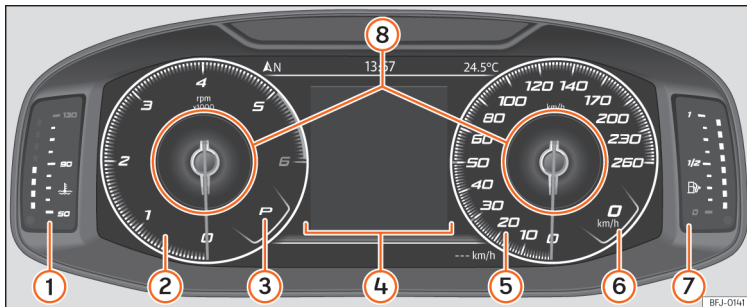

Fig. 124 SEAT Digital Cockpit on the instrument panel (classic view).
In *Classic View* and *Semicircular watches* it is possible to customise the information displayed under **Information Profiles** » **Fig. 124** ⑧.
»» Fig. 124.